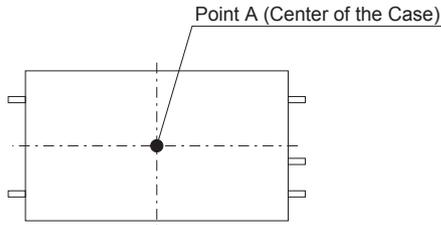

Fig.7.1 Temperature Measuring Point on the case (Top View)
■ Please use the point A temperature (center of the case) shown in Figure 7.1, and the ambient temperature around the power supply to be below the temperatures shown in Table 7.1.